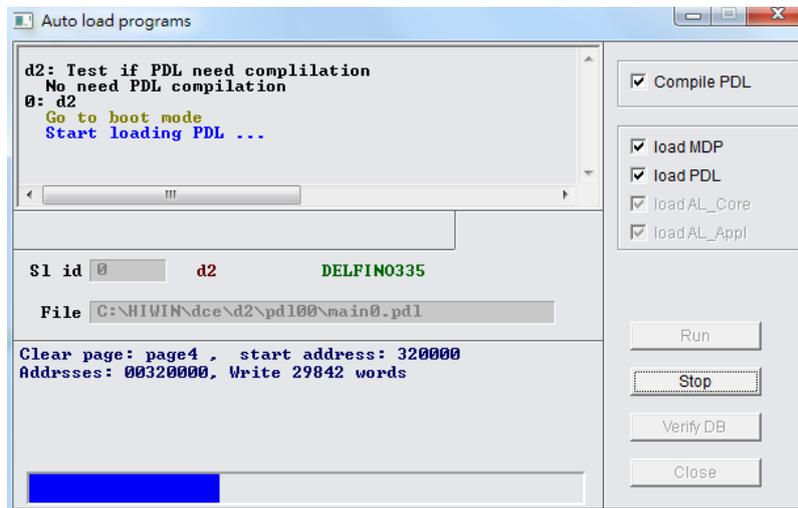

Figure 12.1.7
Step 4. Click the "Confirm" button to display the "Auto load programs" window. The firmware will be automatically loaded to the drive, as Figure 12.1.7 shows.